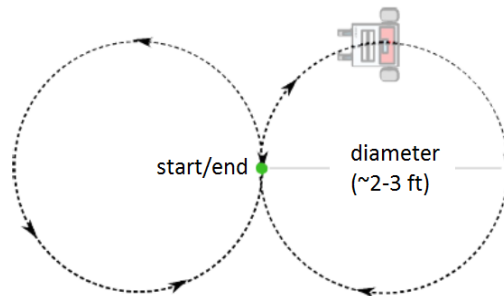

Figure 9: Figure Eight Robot Motion
3. Next, create a `moveFigure8()` function to move the robot in a figure eight using two circles (see Figure 9).